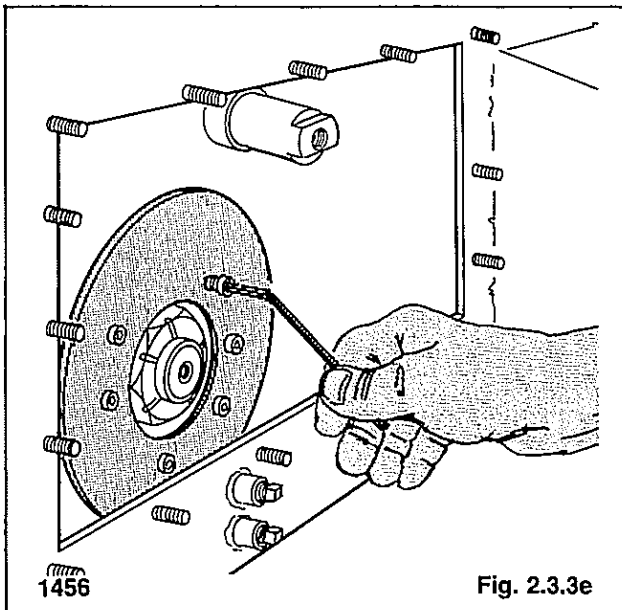

Fig. 2.3.3e
10. Remove the brake disc from the torque motor sprocket (fig. 2.3.3e).